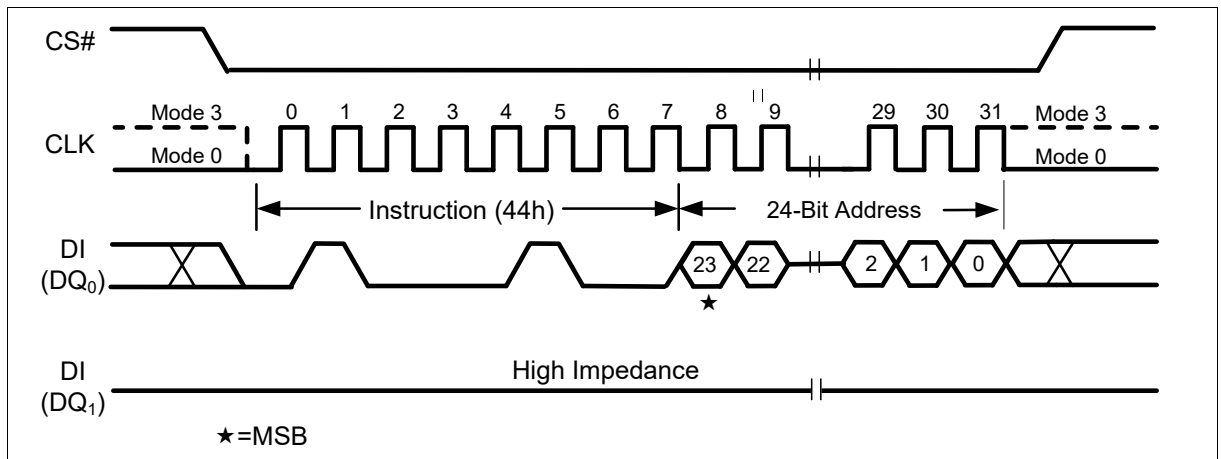

Figure 52 Erase Security Sector Instruction (SPI Mode only)
The Erase Security Sector instruction sequence is shown in Figure 52. The CS# pin must be driven high after the eighth bit of the last byte has been latched. If this is not done the instruction will not be executed. After CS# is driven high, the self-timed Erase Security Sector operation will commence for a time duration of t_{SE} (See “12.6AC Electrical Characteristics”). While the Erase Security Sector cycle is in progress, the Read Status Register instruction may still be accessed for checking the status of the WIP bit. The WIP bit is a 1 during the erase cycle and becomes a 0 when the cycle is finished and the device is ready to accept other instructions again. After the Erase Security Sector cycle has finished the Write Enable Latch (WEL) bit in the Status Register is cleared to 0. The Security Sector Lock Bit (LB) in the Status Register-2 can be used to OTP protect the Security Sectors. Once the LB bit is set to 1, the Security Sector will be permanently locked, Erase Security Sector instruction will be ignored.